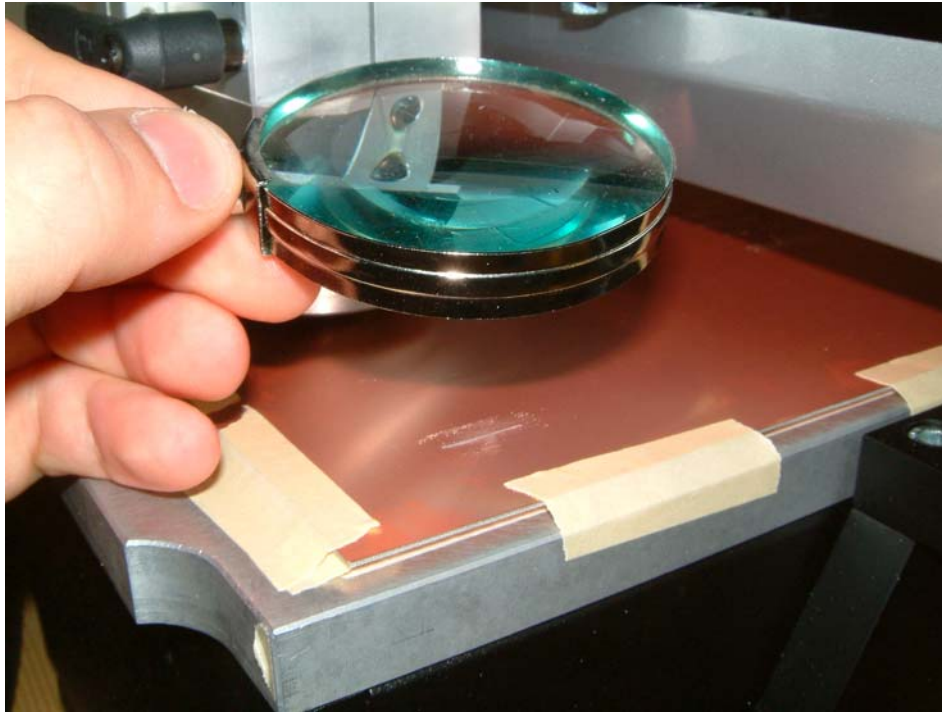

Figure 29: The magnifying glass can be used for the visual inspection of the milling depth.
4. Inspect the trench. If the trench is too shallow, bring the head down 40 mm, lower the milling bit by 15 clicks and repeat steps 2-3 until the depth is calibrated. A magnifying glass is available for the visual inspection, as shown in Figure 29.